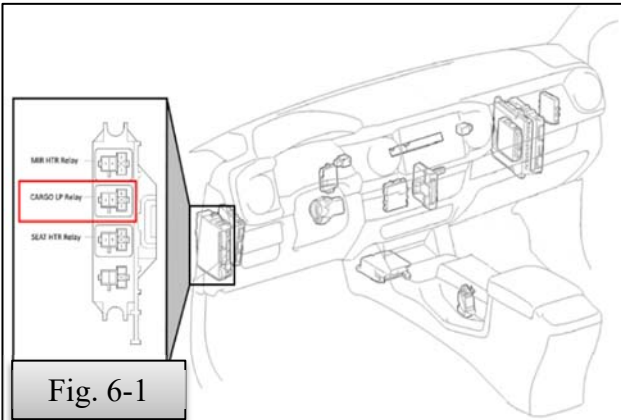

Fig. 6-1
- (e) See Figure 6-1, 6-2 for relay location (P/N: 90080-87026) and insert the relay in the Cargo LP Relay.